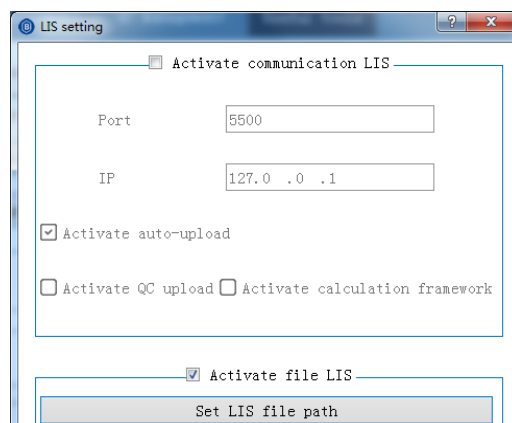

Figure. 8.7.3 LIS setting
- Select **System** tab under **Useful tools** and click **LIS settings**. The LIS setting window will appear, as shown in Figure 8.7.3.
- In the **LIS settings** interface as shown in Figure 8.7.3, check the boxes of **Activate auto-uploading**, **Activate auto-downloading** and **Activate QC results uploading** then click **Save**.